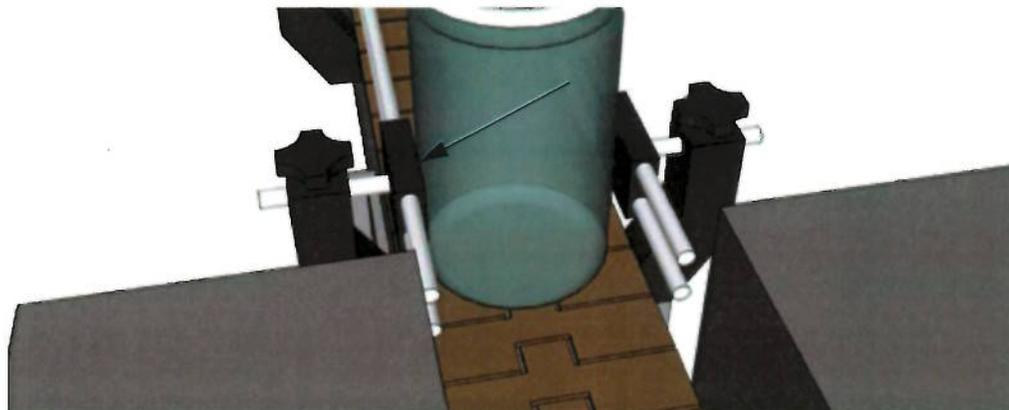

fig.17
- Push the container on one side and adjust the opposite side leaving a space of 2 mm. Once the adjustment has been performed, lock sides by making use of relative knobs (fig.17).